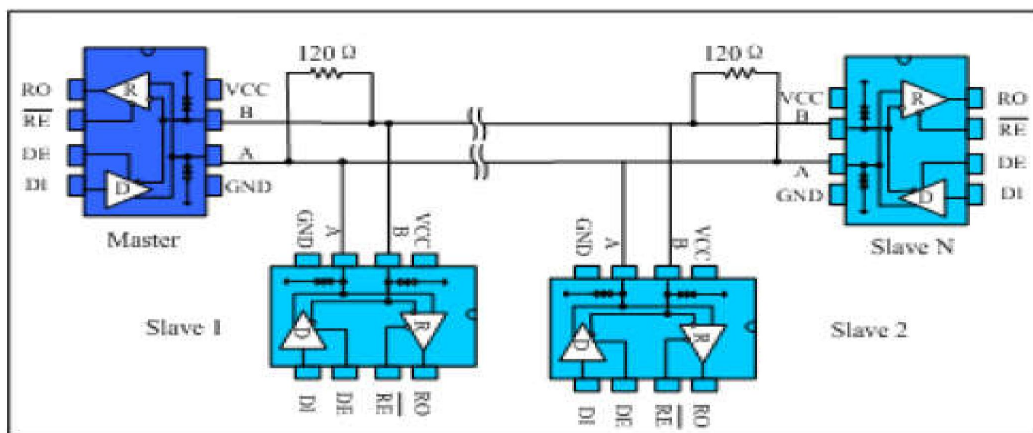

Fig. 9 Bus-type RS485 half-duplex communication network
4.1 Bus networking: The MAX1487EESA-TD RS485 transceiver is designed for bidirectional data communication on multi-point bus transmission lines. Figure 9 shows a typical network application circuit. These devices can also be used as linear repeaters with cables longer than 4000 feet. In order to reduce reflections, terminal matching should be done at both ends of the transmission line with their characteristic impedance, and the length of the branch wires other than the main line should be as short as possible.